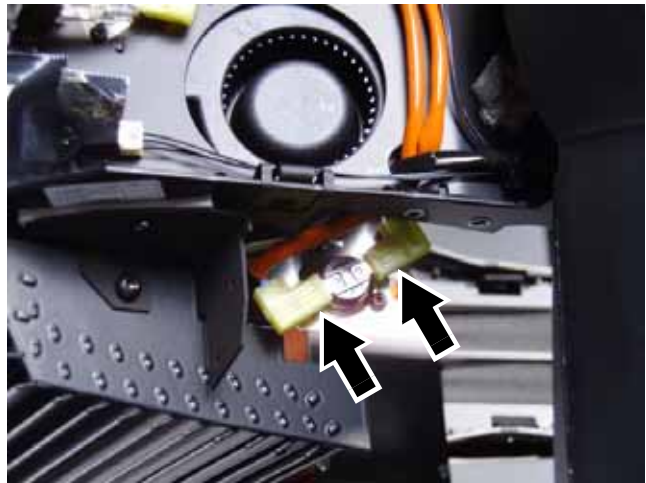

Figure 46
51. See Figure 46. Disconnect the leads (arrowed) from the thermoswitch on the right-hand side lamp fan assembly.
connect the spade connectors from the old thermoswitch (see Figure 46) to the new one. Do not route fan power leads to their connectors yet, as this is easier with the lamp leads from the ignitor to the lamp removed (routing the fan power leads is described in step 59.).